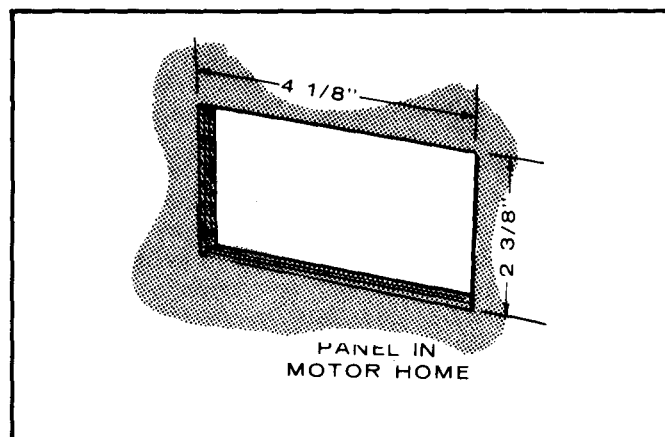

FIGURE 77. PANEL CUTOUT (300-0986)
1. Determine location of remote control and cut a hole in motor home panel to accommodate control (Figure 77).